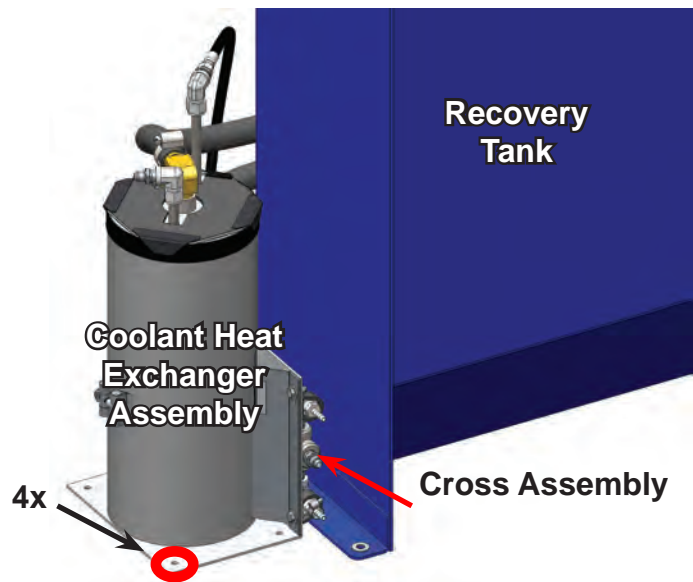

Figure 61. Installing Coolant Heat Exchanger/Cross Assembly
Dry fit the Coolant Heat Exchanger/Cross Assembly behind the driver's seat location, to the side of the Recovery Tank (see Figure 61).
1. After dry fitting the Coolant Heat Exchanger Assembly on the floor of the van next to the CDS, mark the location of the 4 holes (see Figure 61).